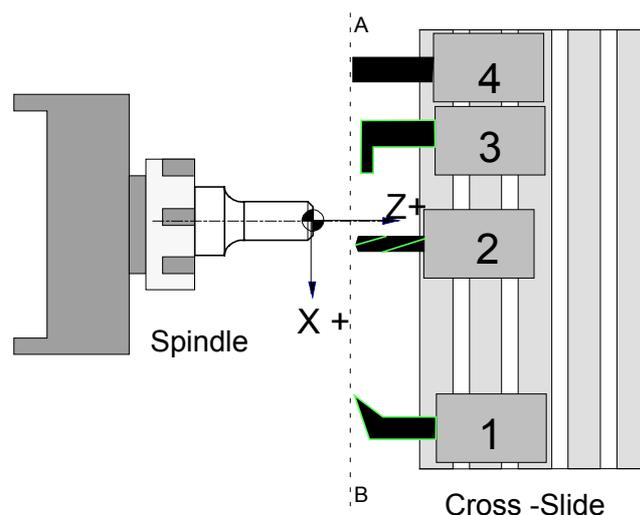

Figure 7-1 : Tool Arrangement
- 3) The idea of a "pseudo-origin-tool" allows the tool selection in a linear tool arrangement without collision, see Figure 7-1.
- The orientation of the coordinate system is shown in Figure 7-1, and the origin of the work piece system is on its face.